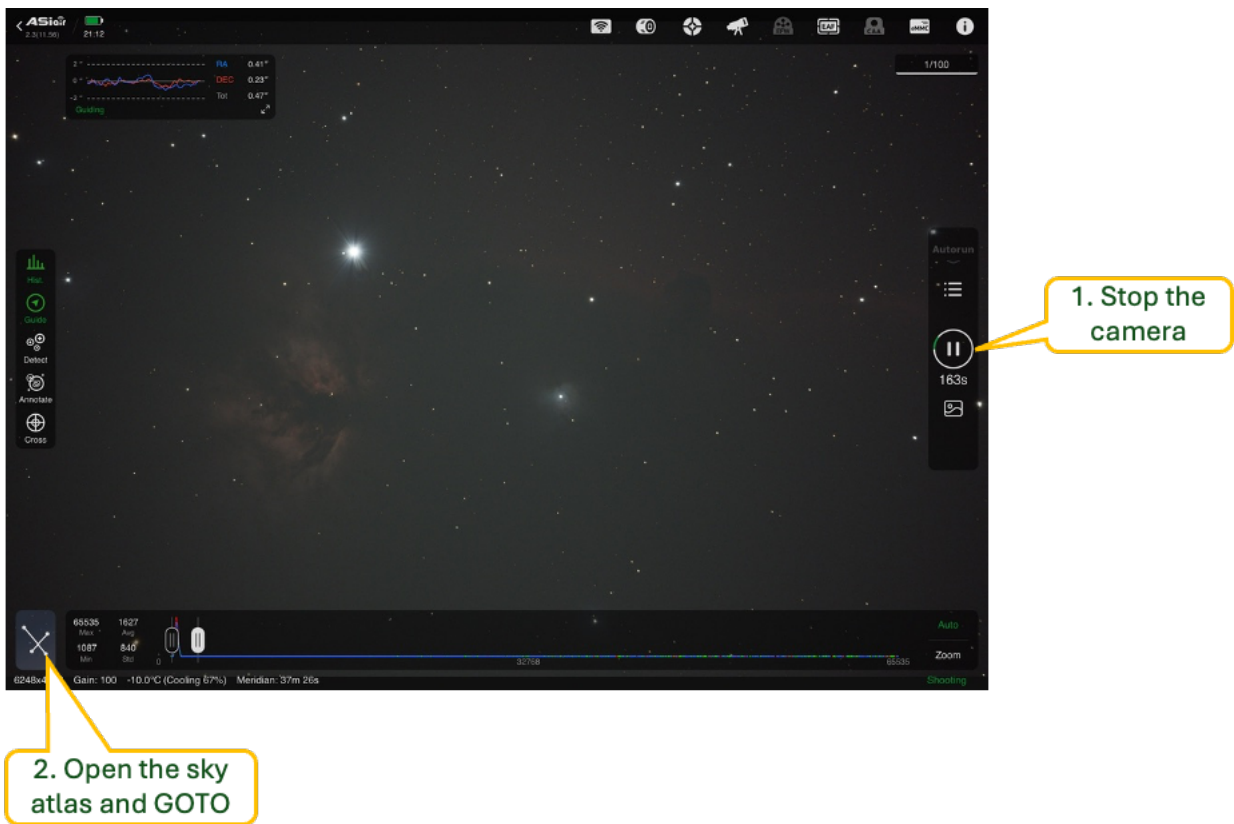

Figure 19. Open the sky atlas...
- a) Select the icon at bottom left resembling the Southern Cross (4 stars) (Figure 19). This opens the star atlas and catalog to look up an object,
- b) In the catalog locate the desired object and press the GOTO icon (3) on the map and slew to it.
Selecting the cross icon at lower left (Figure 19) and the sky atlas is displayed. Selecting an object and pressing the GOTO icon, the mount will slew to it, takes a frame and platesolves to verify it is on